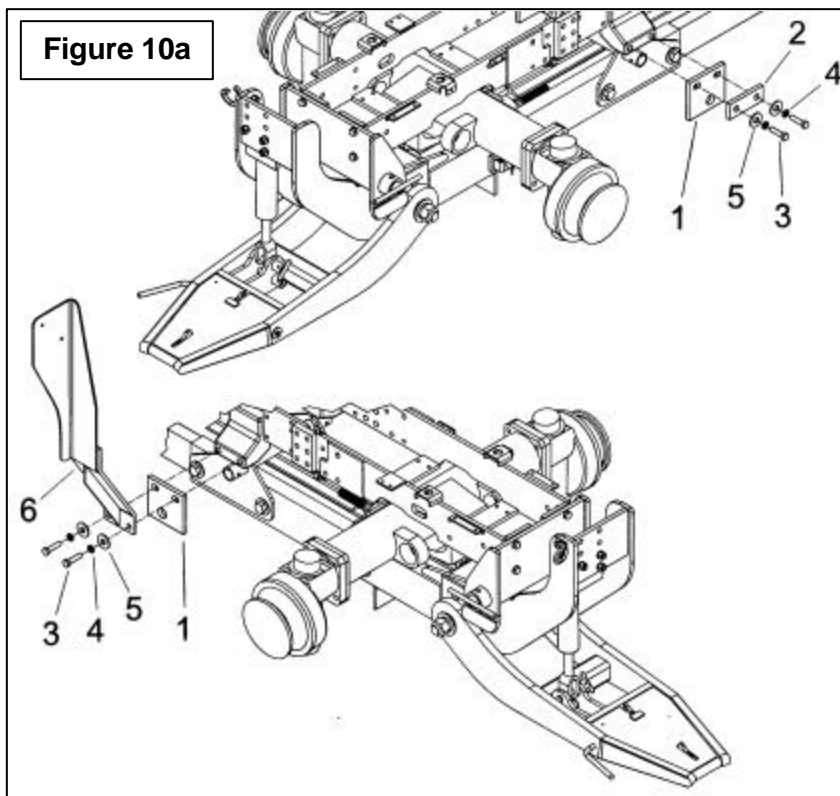

Figure 10a
## Étape 4: (Figure 10a)
- **If you do not own the front loader,** Place the mid support installation plates (item 1), the spacer (item 2) and the valve support (item 6) as shown on figure 10a and attach to each side of the tractor using M16 x 1.5 x 55mm lg hex. bolts (item 3), 16mm lockwashers (item 4) and Ø 11/16" int. flatwashers (item 5). For now do not tighten the M16 x 1.5 x 55mm lg hex bolts (item 3).
**NOTE:** Position the round hole of the installation plates (Fig. 10a and 10b, item 1) towards the rear of the tractor.